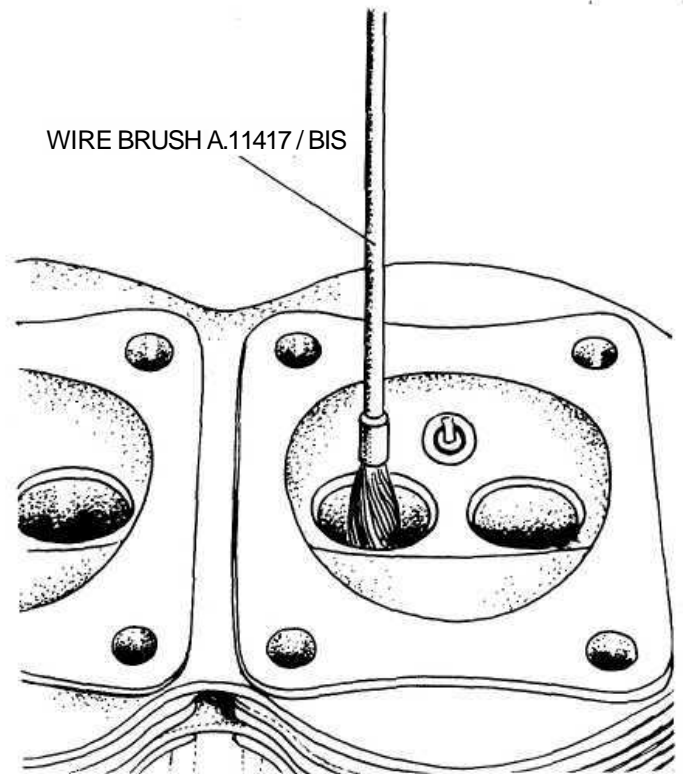

FIG 1:16 Cleaning valve guides
- 20 To ensure no damage occurs to the long cylinder barrel mounting studs these may be removed using Fiat puller A.40010 or a universal stud remover as shown in **FIG 1 :12**.